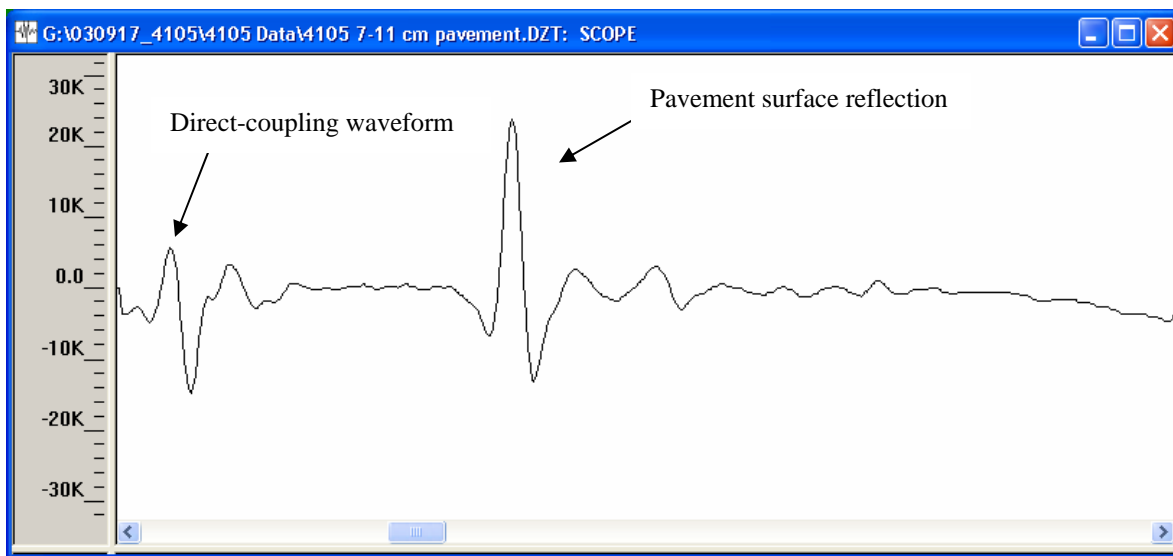
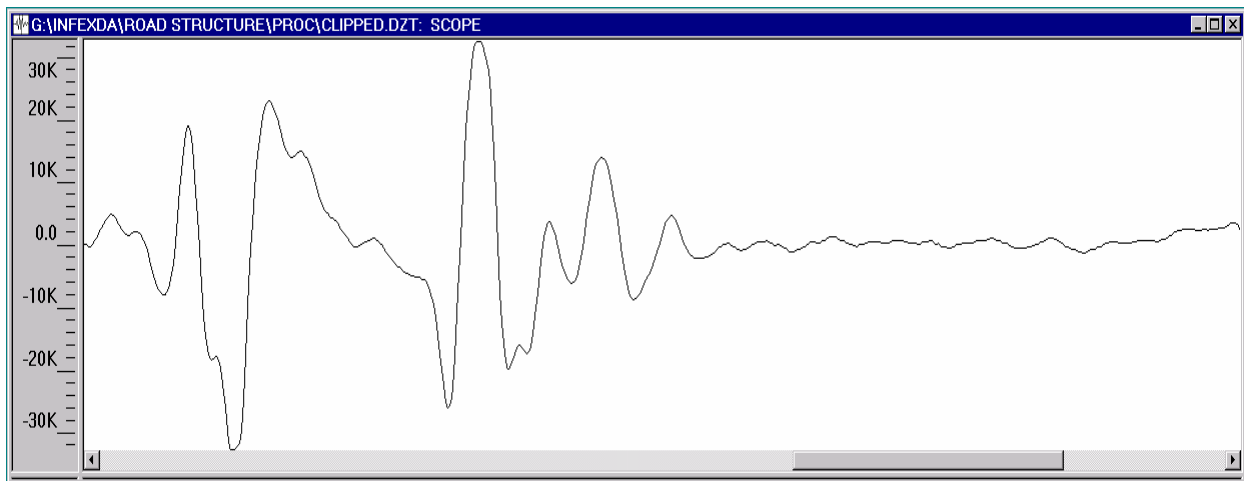

Figure 2: Typical data scan obtained with Model 4105 and recommended software settings.
Figure 3: Example of Model 4105 data scan collected with too much gain.
\*\* Use 1 MHz IIR High Pass to remove signal slopes near bottom of scan (as shown in Figure 2).
**Position:** Signal position should be adjusted so that the latest arriving wavelet of the direct-coupling is near the top of the scan. This wavelet should always be visible in the data. GSSI's RADAN post-processing software requires the presence of this wavelet in the data. Figure 2 shows a typical scan of data with the signal properly positioned. The largest amplitude reflection will be the pavement surface. The next largest reflection will be desired direct-coupling waveform. This will occur several nanoseconds before the pavement surface reflection and appear in the Position window (below) as the next significant waveform to the left of that pavement surface. Unlike ground-coupled antennas, the desired direct-coupling waveform is not the first significant return in the trace. You may see another waveform that looks similar to the direct-coupling higher in the trace. You do not want this waveform, but the second one. Since the antenna and the pavement are separated by nothing but air, the trace between the pavement reflector and the desired waveform should be fairly flat (as below). If you accidentally set the position to the incorrect waveform, the post-processing will not work correctly.
**Gain:** Data collection gain for the 4105 antenna should be adjusted so that the peak amplitude of the pavement surface reflection is approximately 2/3 of the total screen width. For example, in Figure 2 the pavement surface reflection has an amplitude of approximately 20000 and the full screen width is 32000. **It is very important that the pavement surface reflection amplitude (and metal plate reflection when performing calibration) never reach its maximum (i.e., clip).** If they jump off of the top or the bottom of the window, they are collected with too much gain. This will cause errors in the post-processing. Figure 3 shows an improperly gained signal.
8. A message will appear on the screen indicating that settings have been changed, then the screen should change and you should see a signal similar to the signal shown in Figure 2 on the right side of the screen. The position of the signal may be shifted and the data collection settings may be slightly different than those currently recommended.